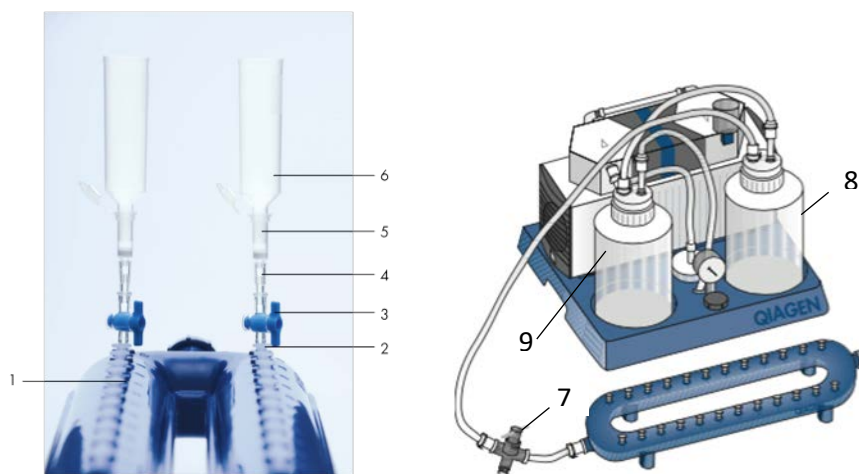

Figure 2: The QiaVac Vacuum Manifold.
- 18) Insert Luer plugs (Figure 2, 2) into Leur ports that will not be used for filtration. These plugs are reusable, do not throw out. Distribute utilization of the manifold ports to ensure equal vacuum is achieved across multiple column purification columns.
- 19) Insert VacValves (Figure 2, 3) into the vacuum manifold slots which will be used for filtration. These valves are reusable, do not throw out.
- i. VacConnectors (Figure 2, 4)
- ii. QIAamp Mini Column (Figure 2, 5)
- iii. 20mL tube extender (Figure 2, 6)
- 24) When the total volume of all of the plasma sample mixture has passed through a column, close the VacValve (Figure 2, 3) to prevent excessive drying. When all columns are empty and VacValves closed, remove and discard tube extenders.
- 25) Use the main vacuum valve (Figure 2, 7) to close the vacuum, release pressure on the manifold and then open each of the VacValves.
- 42) Empty the waste jug (Figure 2, 8) and waste over-flow jug (Figure 2, 9) into an appropriate biohazard waste container. Wash with soap and water followed by 70% ethanol. Let dry.